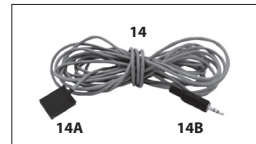

Fig. 3 Layout of SEC-1250UL and SEC-2425UL
The type of Lead Acid Battery and the desired charging algorithm can be selected with the help of DIP Switches S1 and S2 (*7 in Fig 3*). For details, please refer to Sections 7.4
- (a) The Output Connectors of the charger consist of one common Negative Connector (3, Fig 3) and two Red Positive Connectors (1, 2 in Fig 3) for charging two banks of batteries. Each of the two Positive Connectors of the two banks has Schottky Diodes in series for isolation. These isolating Schottky Diodes have a current dependent forward voltage drop "Vf" ranging from 0.2 to 0.3V (at 0.1A) to 0.6V (at 50A). In addition, there will be additional forward drop "Vb" across the bulk resistance of the Schottky Diodes and this drop will also increase with increase in charging current. **Please note that the forward voltage drops "Vf" and "Vb" occur only when current flows through the Schottky Diode i.e. when the charger is supplying current to the battery / load.**